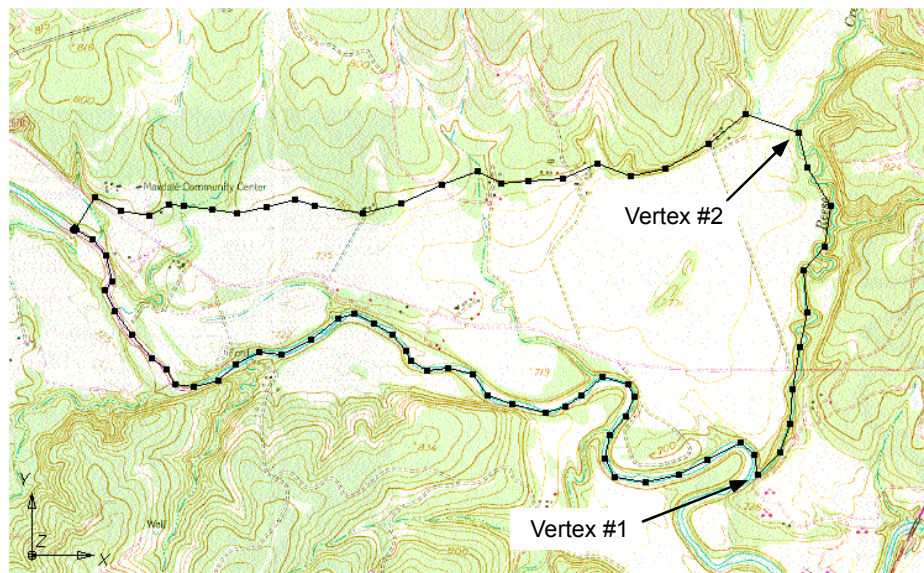

Figure 4-3 Convert Vertices to Nodes.
2. Select the two vertices shown in Figure 4-3. Vertex #1 is located at the junction of the two rivers. Vertex #2 is located at the top of the river on the east side of the model. To select both vertices at once, select the first vertex and then hold down the *Shift* key while selecting the other vertex.